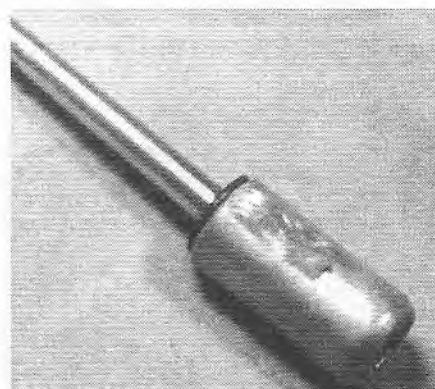

Fig. 4.23 Typical needle in a SU or Stromberg carburetor
- 5 On SU and Stromberg carburetors, check the condition of the needle for corrosion and straightness (refer to Fig. 4.23).